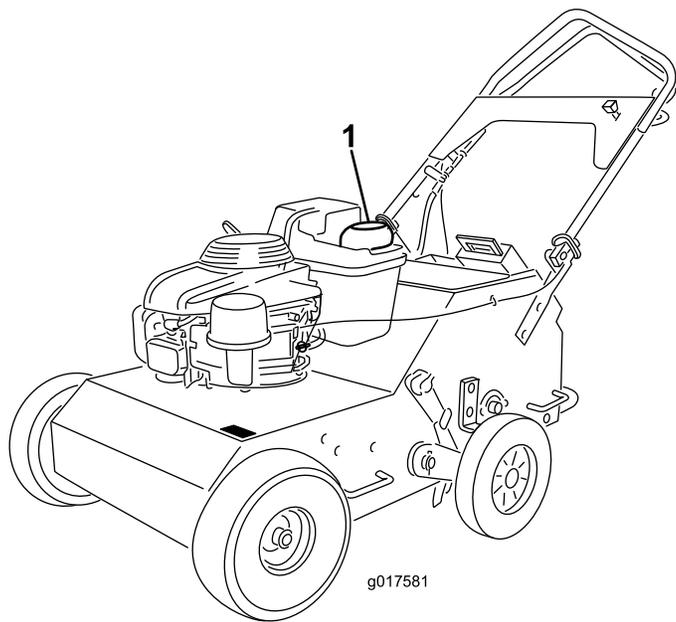

Figure 8
1. Clean around the fuel tank cap (Figure 8).